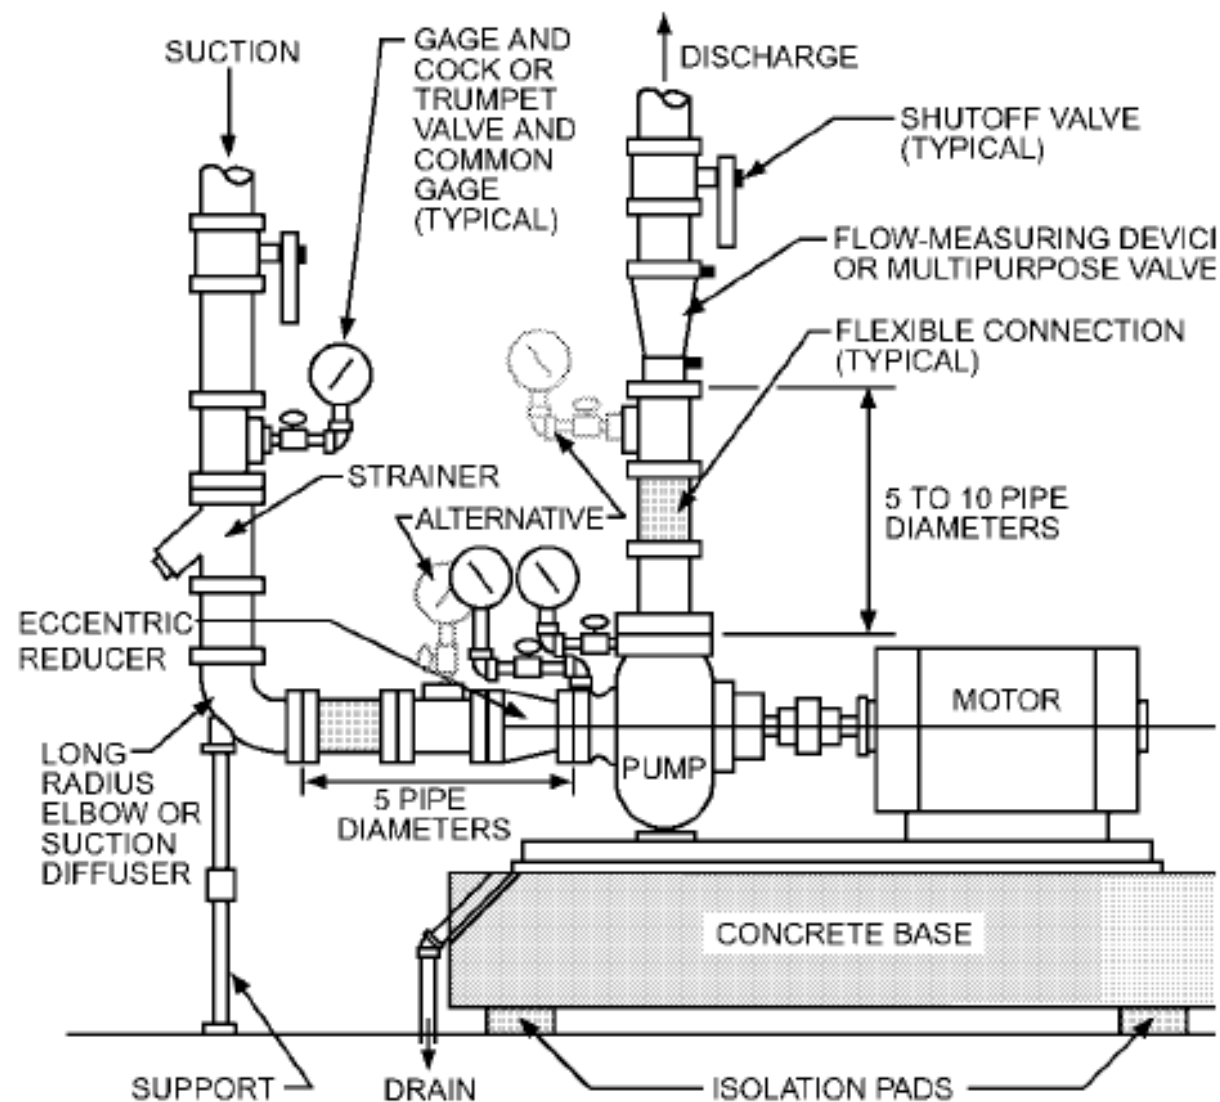

Fig. 49 Base-Plate-Mounted Centrifugal Pump Installation
1. Pumps may be base-plate-mounted (Figure 49), either singly or in packaged sets, or installed in-line directly in the piping system (Figure 50). Packaged sets include multiple pumps, accessories, and electrical controls shipped to the job site on one frame. Packaged pump sets may reduce the requirements for multiple piping and field electrical connections and can be factory tested to ensure specified performance.
11. Install vibration isolators in the pump suction and discharge lines to reduce the transmission of vibration noise to building spaces (Figure 49). Properly located pipe hangers and supports can reduce the transmission of piping strains to the pump.